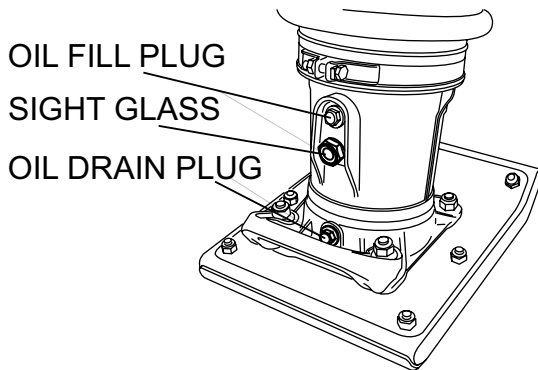

Figure 3. Foot Housing Sight Glass
1. Check the oil level through the oil level sight glass (Figure 3) at the rear of the tamper foot.
2. If oil is not visible, add 10W-30 SE, SF or higher grade motor oil into the oil fill plug opening (Figure 3). The bath contains approximately 0.37 qt. (0.35 liter)